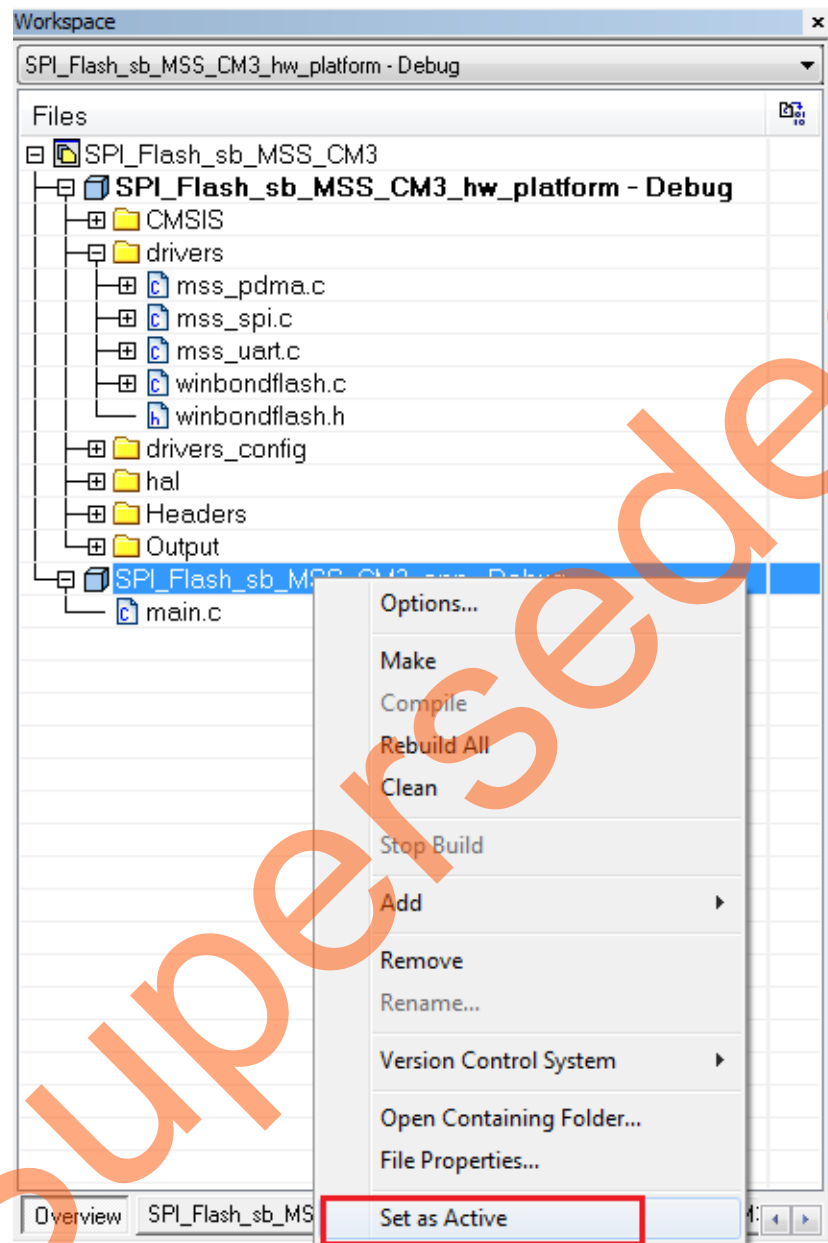

Figure 33 • IAR Workspace - SPI\_Flash\_sb\_MSS\_CM3\_app Set as Active
16. Right-click **SPI\_Flash\_sb\_MSS\_CM3\_app - Debug** project name and select **Set as Active**, as shown in Figure 33.